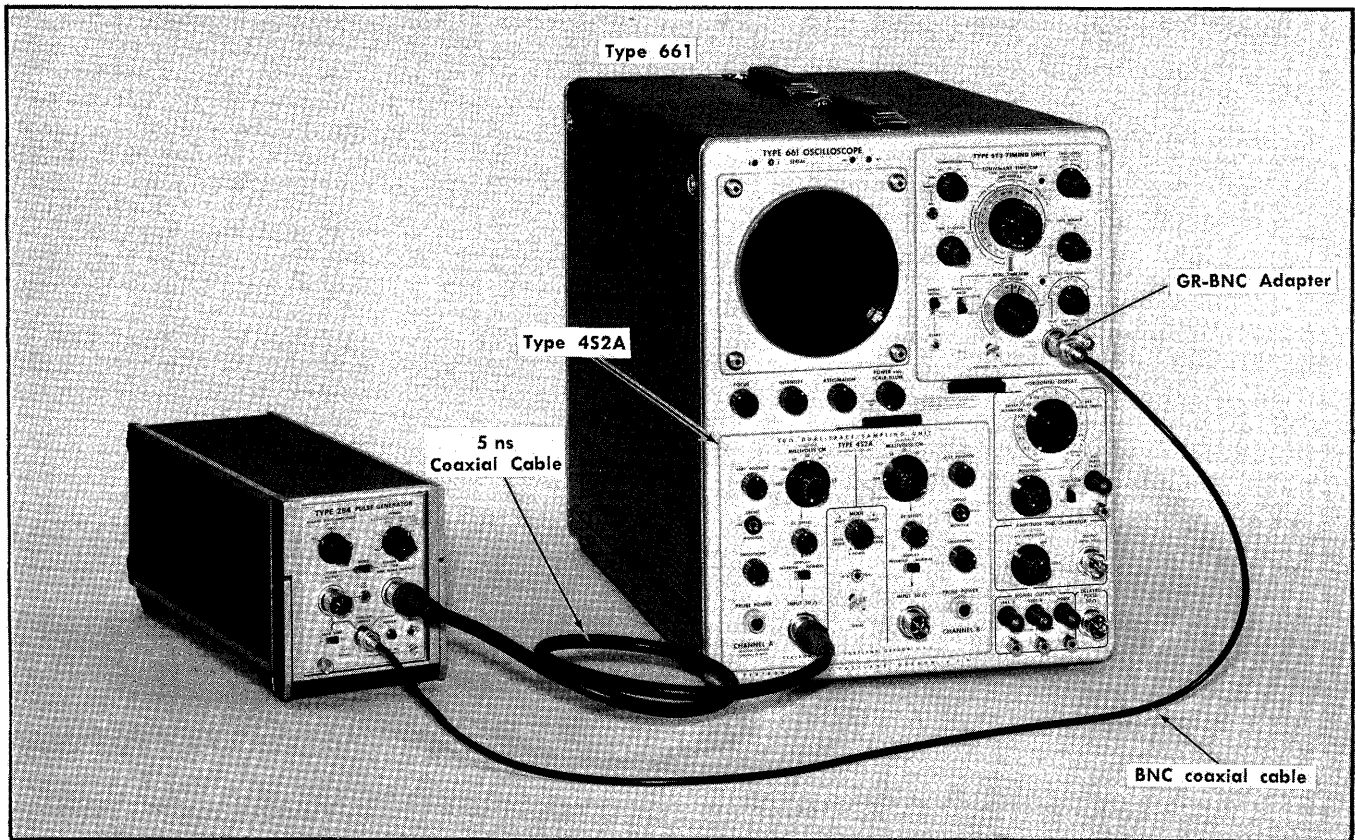

Fig. 6-19. Initial equipment setup for steps 11 and 12.
**11. Adjust 10 ns Amplitude, C66** ❶
a. Use the initial equipment setup shown in Fig. 6-19, by connecting the SINE WAVE OUTPUT signal from the Type 284 through a 50 Ω coaxial cable to the Channel A 50 Ω input connector on the Type 452A. Connect TRIGGER OUTPUT signal from the Type 284 through a BNC coaxial cable and a BNC to GR adapter to the 50 Ω Ext Trig Input connector.